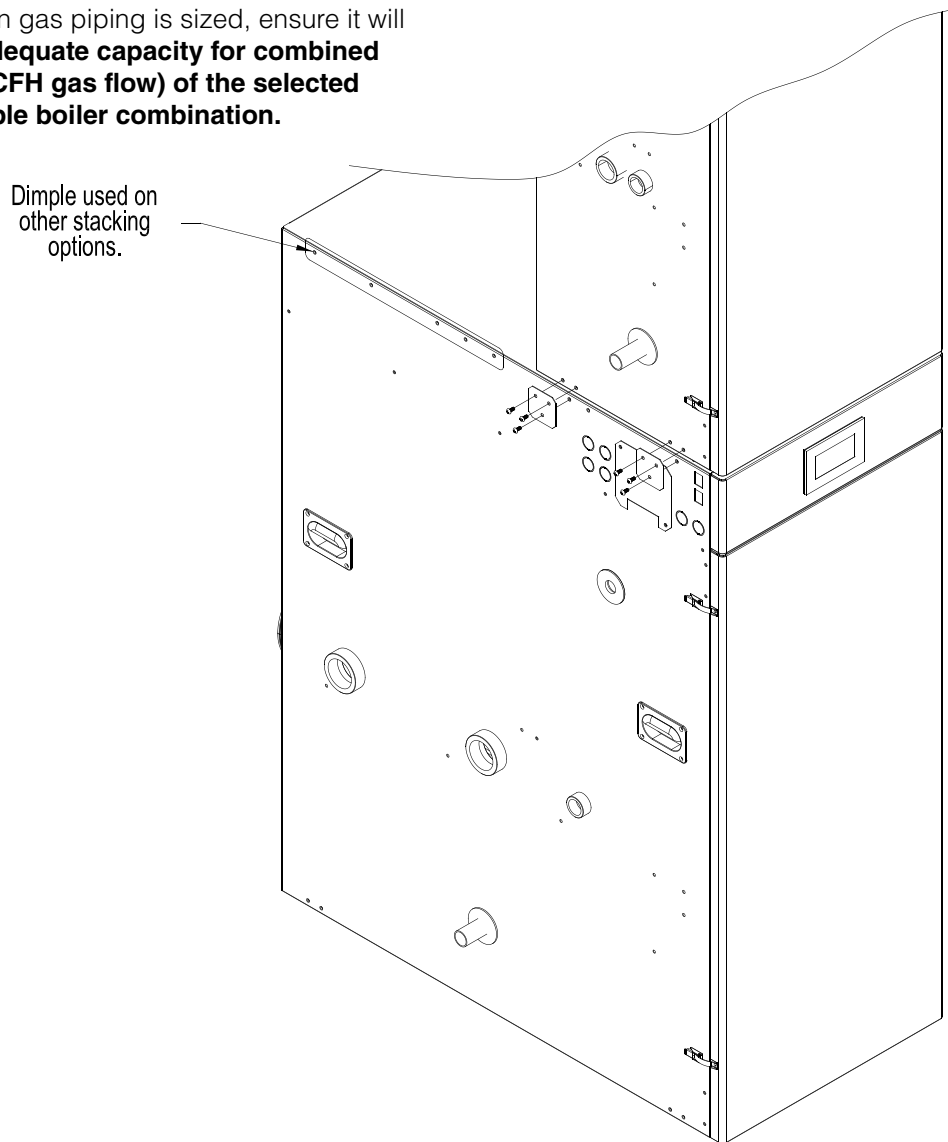

Figure 3-7: Stacking Boiler Attachment Bracket Placement
- b. Each Phantom boiler is factory packaged with two (2) Stacking Boiler Attachment Brackets and the bracket mounting hardware [six (6) self-drilling hex washer head plated #8 x 1/2 in. long screws]. Locate and remove the brackets and the hardware. The Stacking Boiler Attachments Bracket has three 7/32 in. diameter holes punched in a triangular pattern. See Figure 3-7 “Stacking Boiler Attachment Bracket Placement”.